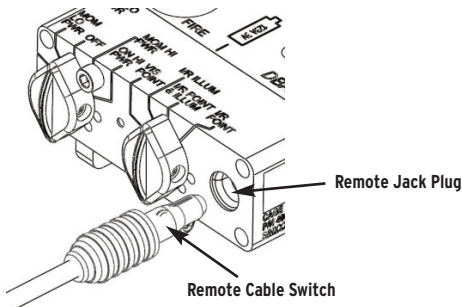

Figure 2. Remote Jack Contacts
1. Remove Remote Cable Switch (Figure 2) or Remote Jack Plug (Figure 2) if installed.
2. Inspect Remote Jack Plug (Figure 2) contacts for corrosion.
4. If necessary, flush Remote Jack Plug (Figure 2) with water to dislodge caked mud and dirt. .
5. Reinstall Remote Cable Switch (Figure 2) or Remote Jack Plug if necessary.